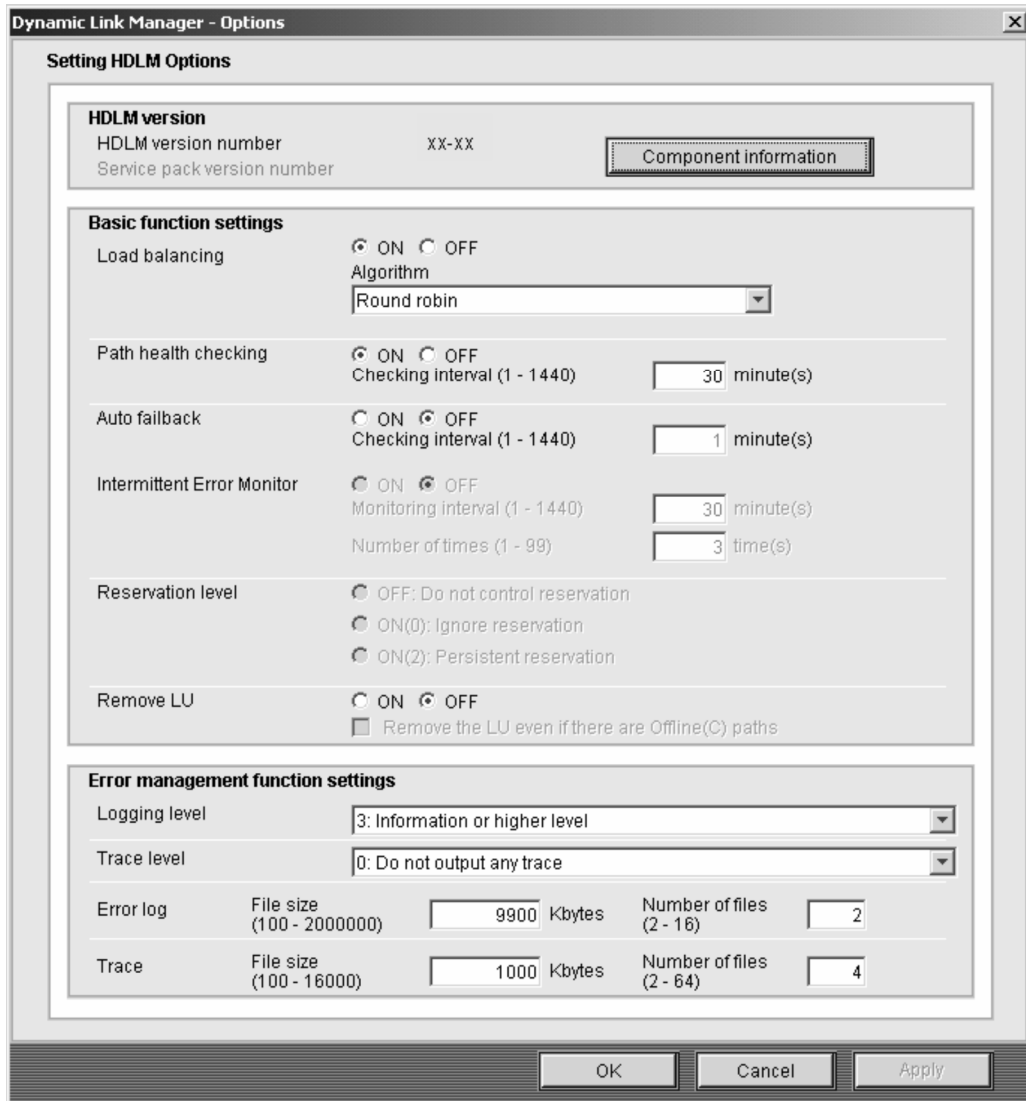

Figure 3.2 Options Window
3. Click the **Options** button. As shown in Figure 3.2, the Options window opens with the Options window displayed.